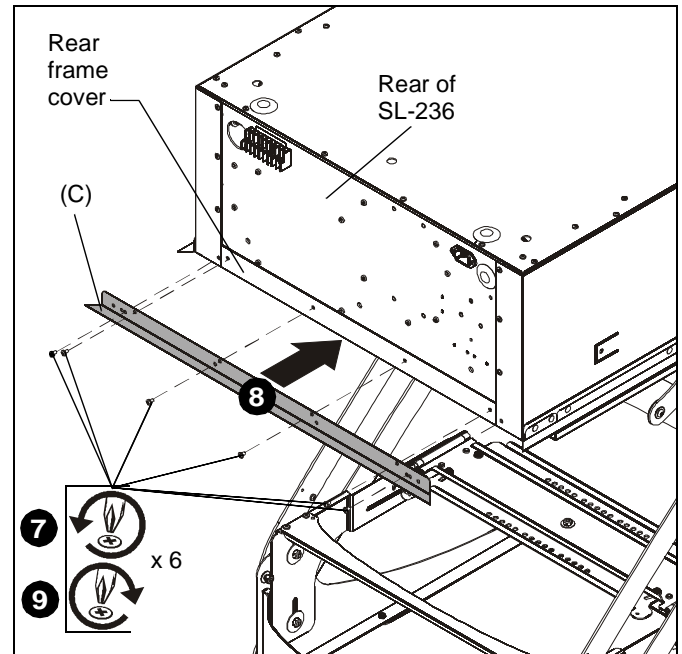

Figure 4
7. Remove six Phillips screws from rear of SL-236. (See Figure 4)
8. Add end trim piece (C) over outside edge of rear frame cover.
9. Reinsert and tighten six Phillips pan head screws removed in Step 7. (See Figure 4)